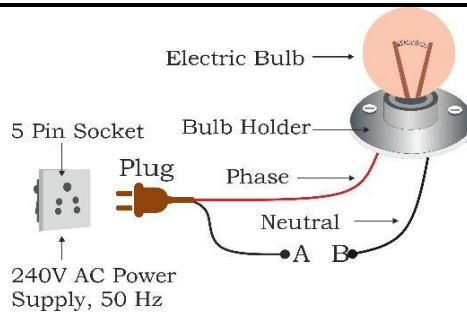

Fig. 2.9: Electric Plug is connected to the AC socket
Step 7. Insert the plug in the socket as shown in Figure 2.9.